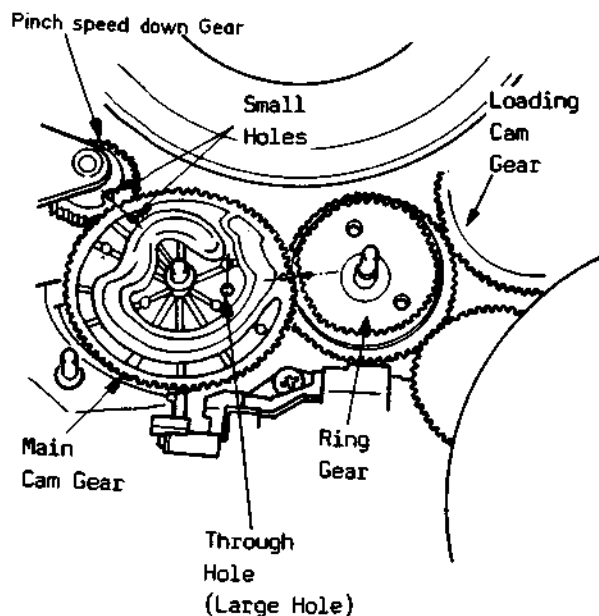

Fig.4-4
- Install pinch speed down gear pos. no. 64(1) from top side of chassis.
- Install main cam gear pos. no. 111(2) on to sub cam gear pos. no. 112(2) so that the small hole on main cam gear is exactly in line with the small hole of pinch speed down gear. And the large hole on main cam gear is exactly in line with the large hole of sub cam gear and the hole on the chassis, as shown in Fig. 4-4. To facilitate aligning the three holes use a small hex wrench or a metal pin.